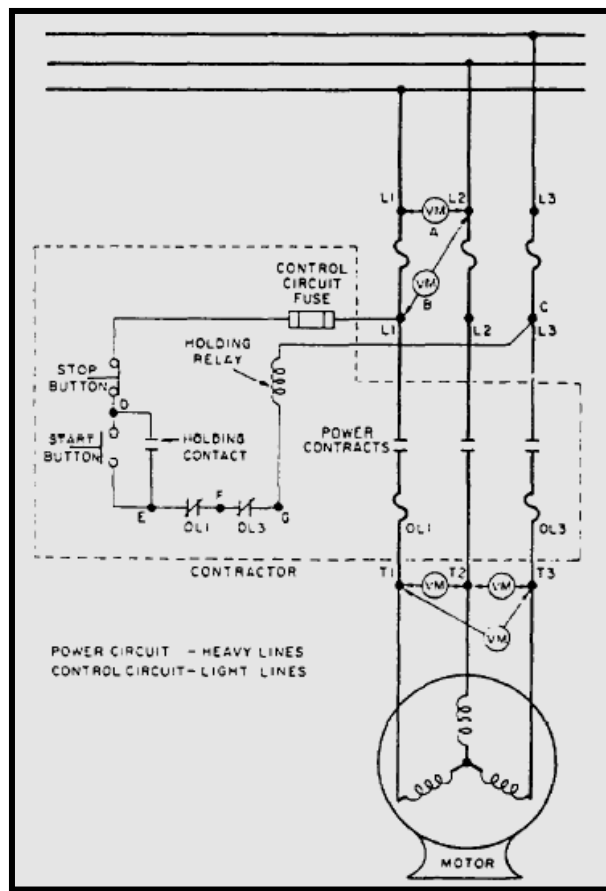

Figure 11-38.— Troubleshooting a 3-Phase magnetic line starter.
An example of troubleshooting a motor-controller electrical system is given in a sequence of steps that may be used in locating a fault (fig. 11-38). We will start by analyzing the power circuit.
2. Place the voltmeter probes at points C and D (fig. 11-38). You should have a voltage reading when the stop switch is closed and a no-voltage reading when the stop switch is open. The conditions would indicate a good stop switch.